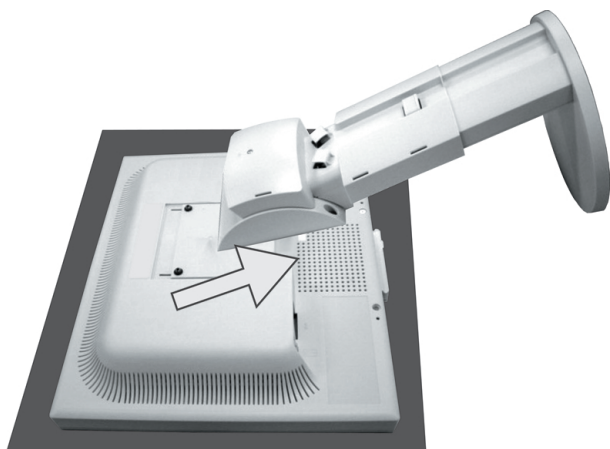

Figure S.3
5. Lift up the stand to unlatch the upper hooks and remove the stand (**Figure S.3**).